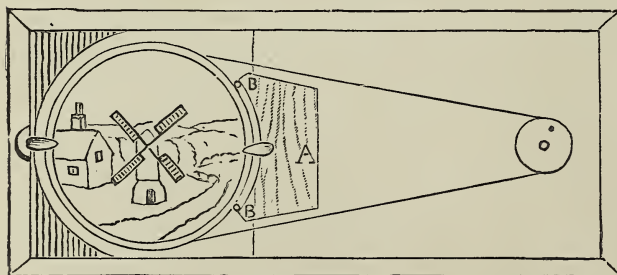

FIG. 4
of deal, making them flush with the board on the other half. Glue corner-pieces (as in Fig. 4) on the other side of the glass, turning the frame over.
of each of these pieces fix a short wire about three-quarters of an inch long near the edge; this wire will serve as a handle to turn the wheel by. Fasten this small wheel to the board by a screw that fits easily into the hole in the centre, without too much play (Fig. 4). Put the circular glass and frame in its place and glue a piece of wood (A, Fig. 4), about two inches wide and a quarter of an inch thick, to the wooden half of frame. Get two small glass beads about a quarter of an inch long and an eighth of an inch wide. Put a wire about an inch long through each, and bend the wires as in Fig. 5. Sharpen the ends and press them into the edge of the wood (A, Fig. 4, B B), so that the beads will turn easily without touching the wood. Cut away a semicircular portion of the end of the frame (Fig. 4) and fasten a small button made of brass plate in it, and fasten another button to the wood (A). These buttons will keep the circular frame in its place. Connect the two wheels with a piece of strong twine, not too thick, going round them both, and fasten the ends by lapping them and sewing them together. Now if you turn the small wheel the large circular frame will turn round in the same direction if your work is well done.
The edge of the circular frame must not touch anything but the glass it rests on, the two beads, and the two buttons. The view is painted on the inside of the fixed glass, and the revolving portion is painted on the under side of the circular glass. In Fig. 4